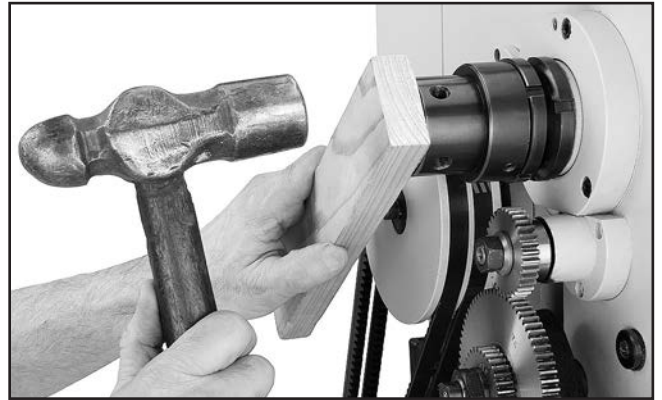

Figure 101. Un-seating spindle bearings to introduce spindle end-play.
6. Since the spindle bearings may unseat easily without great force, hold a wood block against the outboard end of the spindle, and tap the block a few times with a three or four pound hammer (see **Figure 101**). Your goal is to slide the spindle forward just enough to introduce spindle end-play that can be heard or felt by hand.